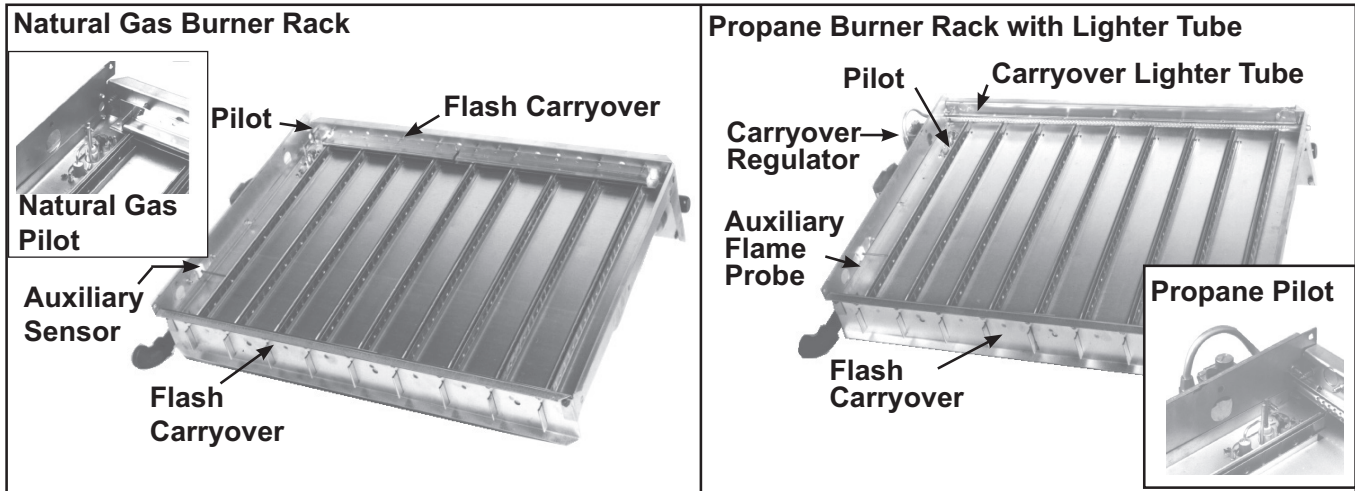

Figure 28. Typical Burner Rack with Pilot
- **Pilot:** The pilot (see Figure 28) is a vertical target type with lint-free feature. Pilot flame should be approximately 1-1/4" in length. Pilot gas pressure should be the same as supply line pressure (refer to Gas Supply Pressure section). Pilot gas is supplied through the combination valve; the pilot gas flow is controlled by an adjustment screw located in the valve body.